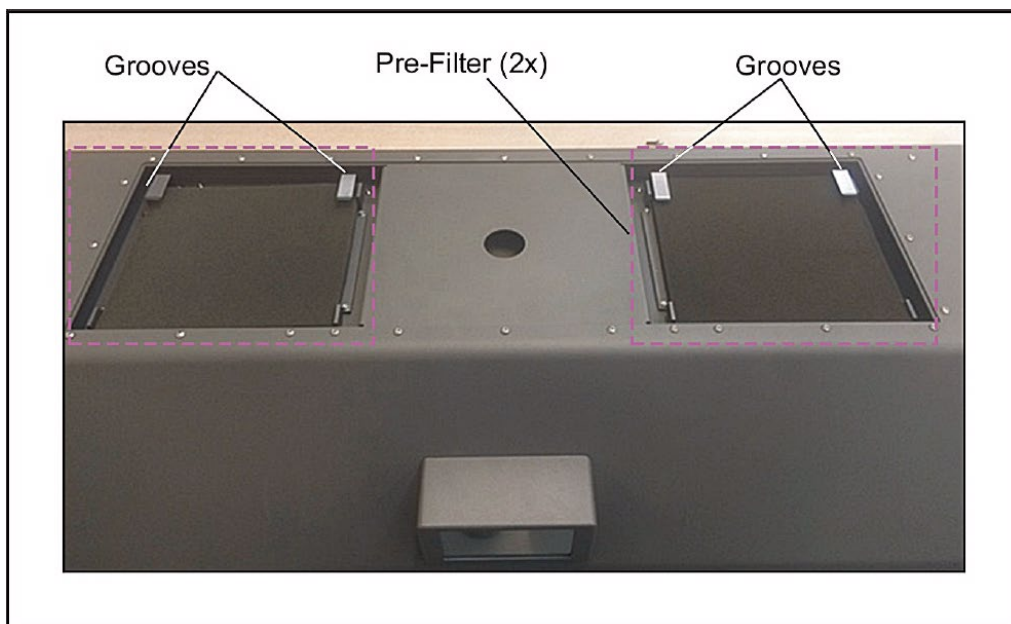

Figure 29. Pre-Filter Installation Locations
2. Install new pre-filters in the grooves of the CAP system hood (Figure 29).